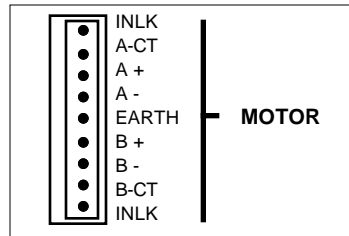

Figure 3-2. LN Drive Motor Connector
The procedures in this chapter will enable you to configure and wire your system. Figure 3-2 shows the front panel of the LN Drive. The following installation steps will be discussed:
*Frame size 23 and 34 motors (LN57 or LN83) are 8 lead motors. Frame size 17 (LN43) are 4 lead motors. Figure 3-2 represents the motor winding color code for 8 lead, 23 and 34 frame size motors.*
Figure 3-2 shows the motor connector. Before connecting the motor, determine which motor wires correspond to Phase A and Phase B. The motor connector provides for easy installation when the motor is wired in series. A-CT and B-CT are not connections—they are terminal blocks used to terminate the center tap connections for series wired motors.